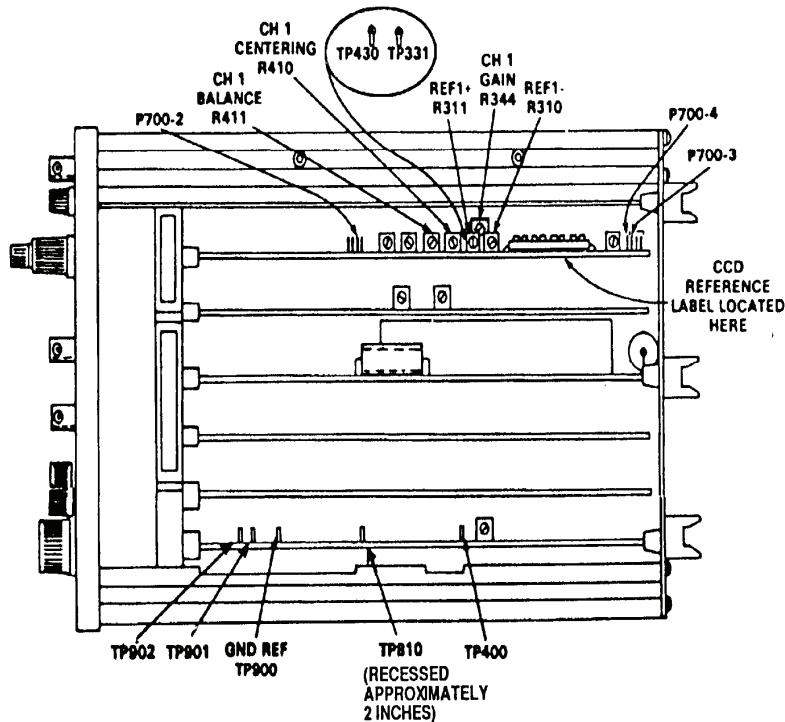
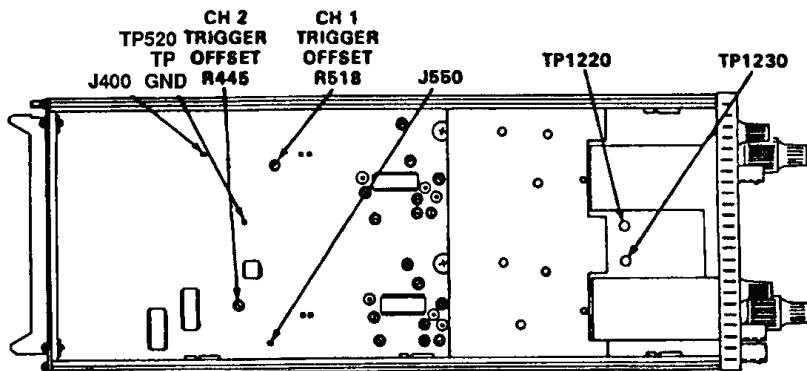

Figure 2. Tektronix, Type 7D20 top view - adjustment locations.
Figure 4. Tektronix, Type 7D20 left side view - adjustment locations.
- m. Connect multimeter positive lead to TP810 and negative lead to TP902 (ground) (fig. 2).
- r. Connect shorting cable between TP1220 and TP520 TP GND (fig. 4).
- s. Connect multimeter negative lead to TP902 (fig. 2) and positive lead to J400 (fig. 4) and adjust CH 1 TRIGGER OFFSET R518, (fig. 4) for 0 V ± 2 mV dc on multimeter.
- t. Remove shorting cable from TP1220 (fig. 4) and connect to TP 1230 and TP 520 TP GND (fig. 4).
- u. Connect multimeter negative lead to TP902 (fig. 2) and positive lead to J550 (fig. 4) and adjust CH 2 TRIGGER OFFSET R445 (fig. 4) for 0 V ± 2 mV dc indication on multimeter.
aq. Connect multimeter to TP400 (fig. 2) and GND REF TP900 (fig. 2) and adjust **TRIGGERING LEVEL** control for -1.28 V, ± 10 mV indication on multimeter .
- bf.** Connect multimeter between TP400 and GND REF TP900 (fig. 2).
- bm.** Connect multimeter between TP400 and GND REF TP900 (fig. 2).